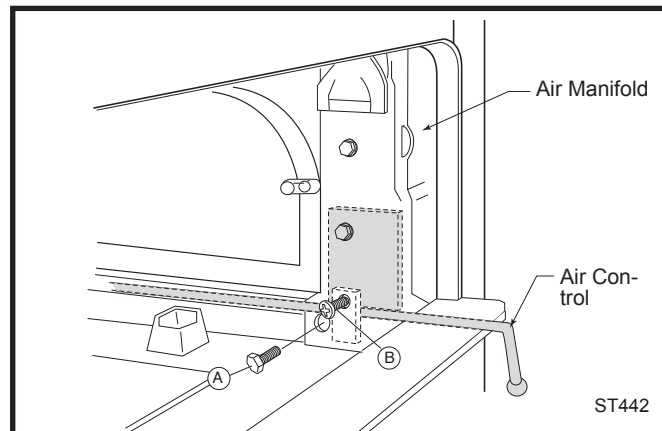

Fig. 30 Primary air control adjustment.
Over time, the air control may tighten or loosen. To adjust the tension on the control, let the stove cool to room temperature. Open the side-loading door and look in toward the inner side of the front panel of the stove. (Fig. 30) Locate the lower hex head bolt (A) on the primary air manifold, just inside the door. Remove the bolt with an open end or box end wrench to gain access to the adjustment screw (B) inside the manifold. Insert a Phillips screwdriver into that hole and turn the screw clockwise to increase tension, counterclockwise to decrease tension. Make adjustments in small increments and test the operation. Replace the hex head bolt when you are done.